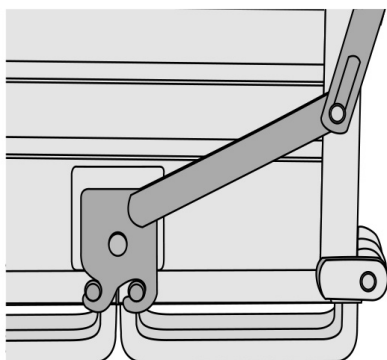
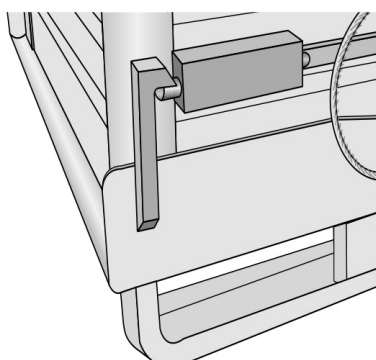
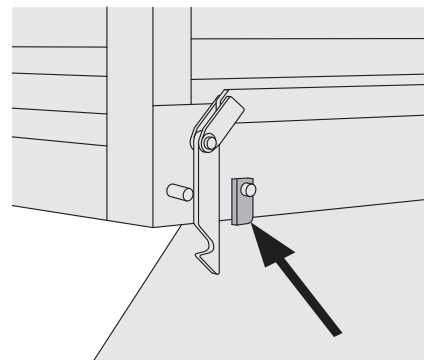

Fig.6.2.12
Fig.6.2.13
Fig.6.2.14
- 6.2.15 Check that the devices securing the bottoms are well hooked on (**fig.6.2.12 - fig.6.2.13 - fig.6.2.14**).